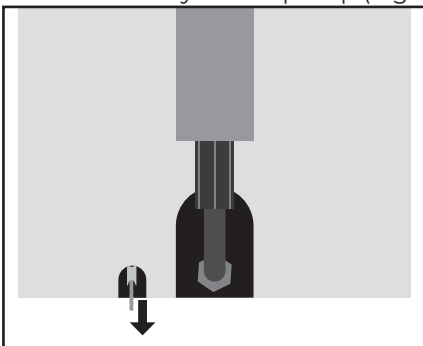

Fig. 8
1. Loosen T-rip and feed wire rope along synchronisation wire rope to column with hydraulic pump (Fig. 8).